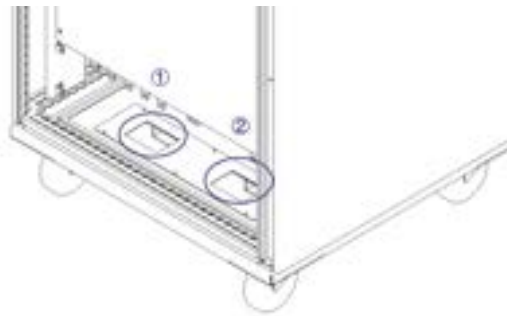

Figure 2-3 Entrance hole
Remove the bottom baffle (Figure 2-2), the user can connect the ground protection wires PE, N, three-phase lines of grid side A, B and C, and the positive and negative output lines of DC side into the cabinet through the AC side entrance hole ① and the DC side entrance hole ② (Figure 2-3).